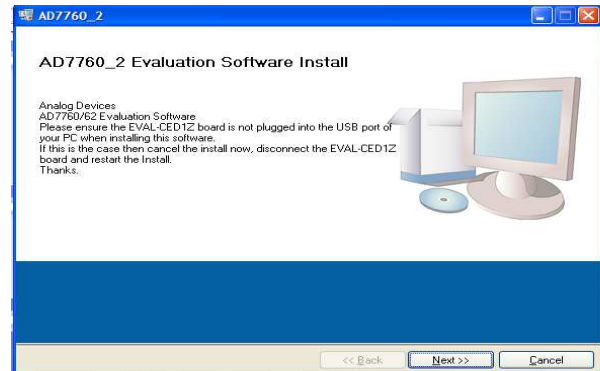

Figure 2. EVAL-AD7763_2EDZ Setup Dialog Box, Initial Software Install Screen
2. The dialog box shown in Figure 2 appears.